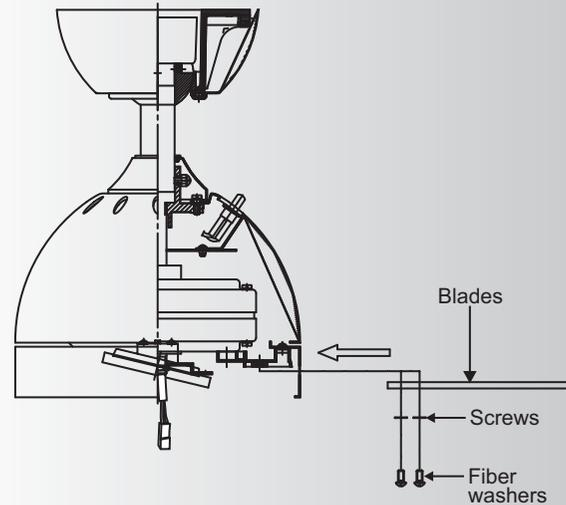

Fig. 16
Step 2. Slide the canopy up to the mounting bracket and place one of the key hole slots over the mounting screw on the mounting bracket. Rotate the canopy until the screw head locks in place at the narrow section of the key hole. See figure 16.
Insert the blade through the blade slot in the motor housing. Align the holes in blade and blade bracket, making sure the holes are also aligned and secure with the screws, fiber washers and blade support plates provided. Repeat process with other blades. (Fig. 16)